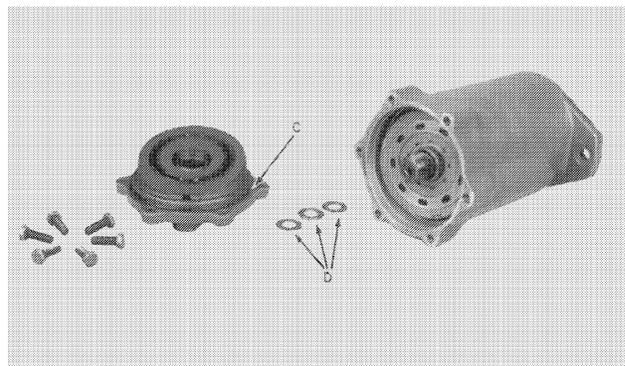

FIGURE 1-23
5. Remove O ring, C, Figure 1-23, from the back plate.
6. Remove the thrust washers and thrust bearing, D, Figure 1-23, from the back plate.
11. Install a new O ring, C, Figure 1-23, on the back plate. Lay the thrust washers and thrust bearing, D, on the end of the shaft. Install the back plate and rotate the back plate until all the bolt holes are properly aligned. Install the bolts and tighten to 15 ft. lbs.-18 ft. lbs. (20 N·m-24 N·m) torque.